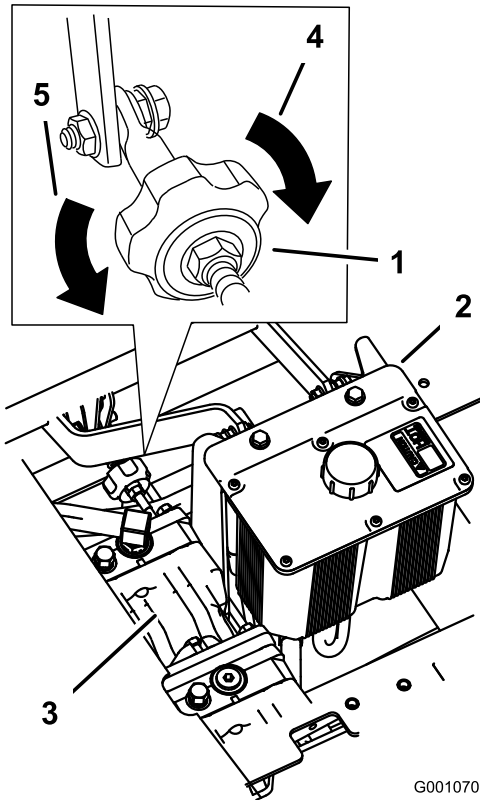

Figure 98
2. Adjust the pump rod length by rotating the knob, in the appropriate direction, until the wheel is still or slightly creeping in reverse (Figure 98).